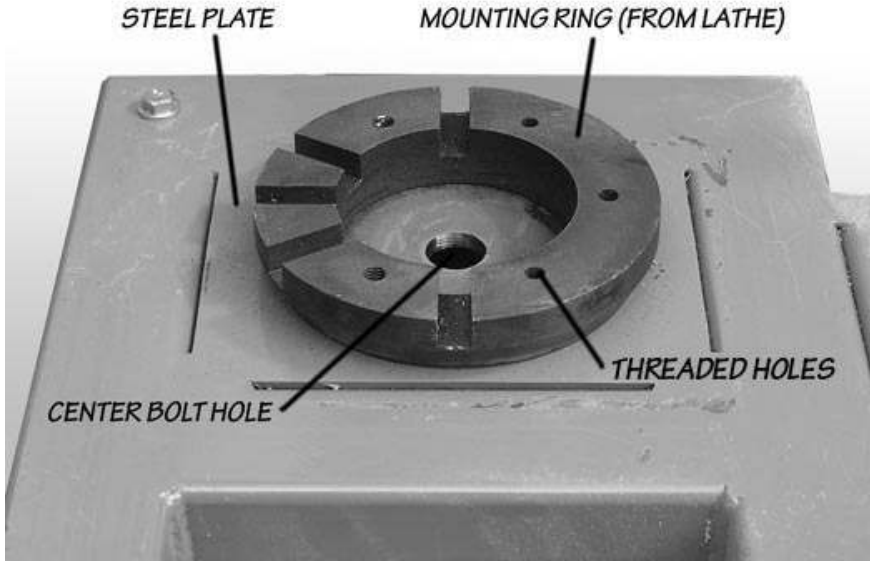

Figure 4 - Typical Lathe Head Mounting Ring
- Figure 4 - Typical Lathe Head Mounting Ring . . . . . 4